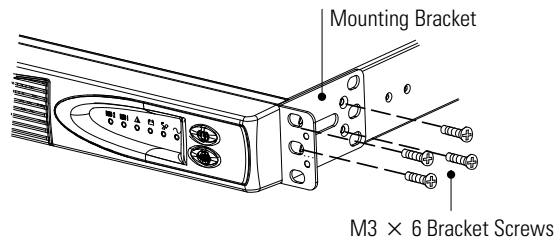

Figure 6. Mounting Bracket for a 19" Rack
2. On each side of the UPS, attach the long end of a mounting bracket to the UPS using four of the M3 × 6 screws (see Figure 6).